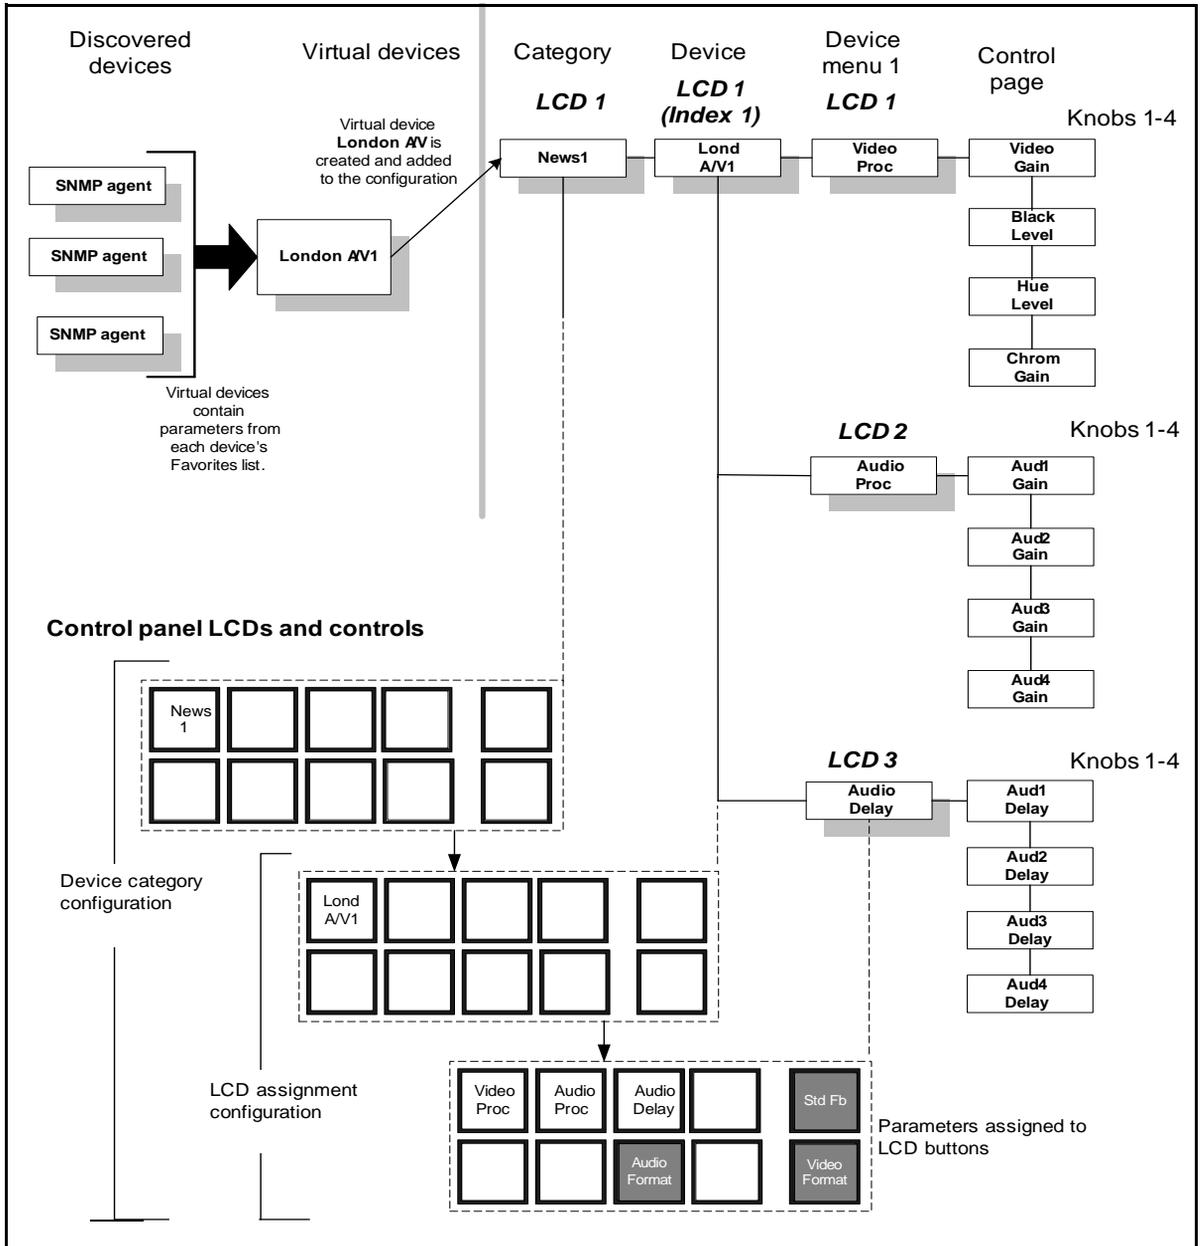

Figure 2-12. Device Category Configuration
- **Device Category**—Using this type of configuration, you can organize devices and virtual devices into categories. Categories are accessible through the first level of the control panel's LCD button assignment hierarchy. Figure 2-12 on page 25 illustrates the organization of a Device Category type of configuration.
Figure 2-12 illustrates a Device Category NUCLEUS configuration.